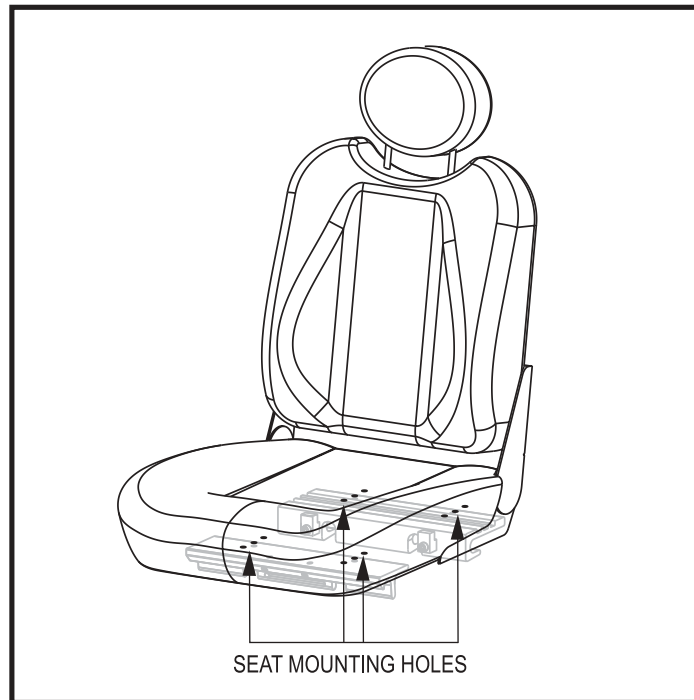

Figure 13. Seat Position Adjustment
5. Reposition the extrusions on a different set of mounting holes. You must move both extrusions the same number of holes either forward or rearwards. See figure 13.